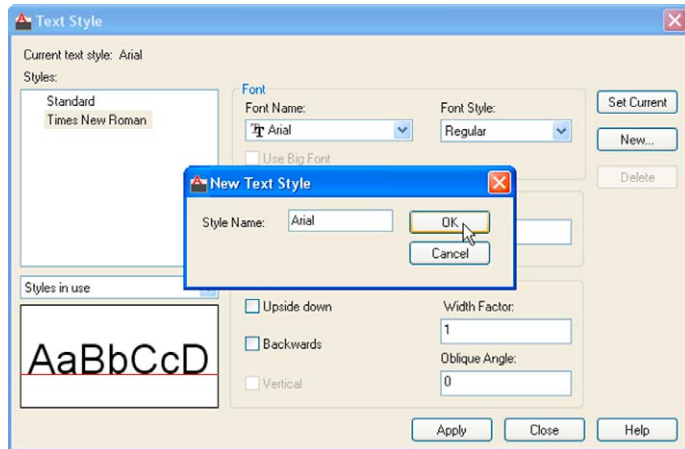

Fig. 4.9 The **New Text Style** sub-dialog
3. Left-click the **New** button and *enter* **Arial** in the **New** text style sub-dialog which appears (Fig. 4.9) and click the **OK** button.